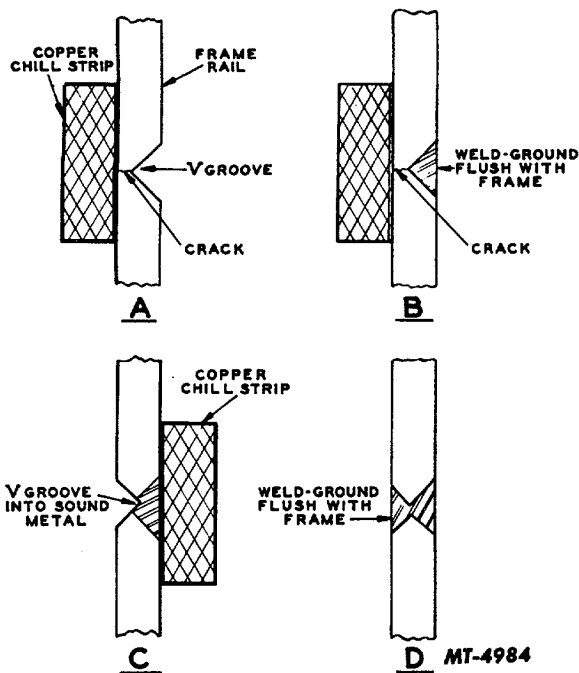

Fig. 7.
- a. Grind a V notch or groove extending along the full length of the crack and slightly beyond each end of the crack. A heavy copper strip or "chill" should be clamped to the rail side away from the groove to help control the temperature and cooling rate. See Fig. 7. **NOTE:** Discarded short lengths of heavy copper electrical bus bars make suitable chills.
- e. When sufficient metal has been deposited, the weld bead should be ground flush, Fig. 7, with the surface being repaired.
of the repair should be deep enough to enter the sound metal of the first weld repair "C" of Fig. 7.